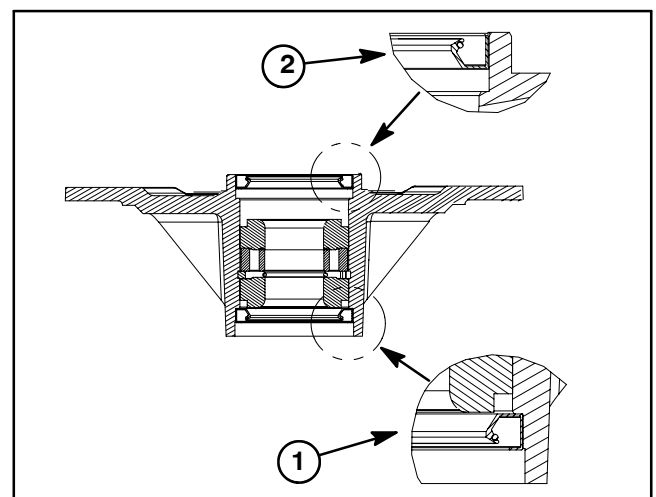

Figure 29
5. Install lower bearing and seal into bottom of spindle housing. **Note:** The bottom seal must have the lip facing out (down) (Fig. 29).
6. Slide spacer ring and inside spacer into spindle housing, then install upper bearing and seal into top of housing. **Note:** The upper seal must have the lip facing out (up) (Fig. 29).